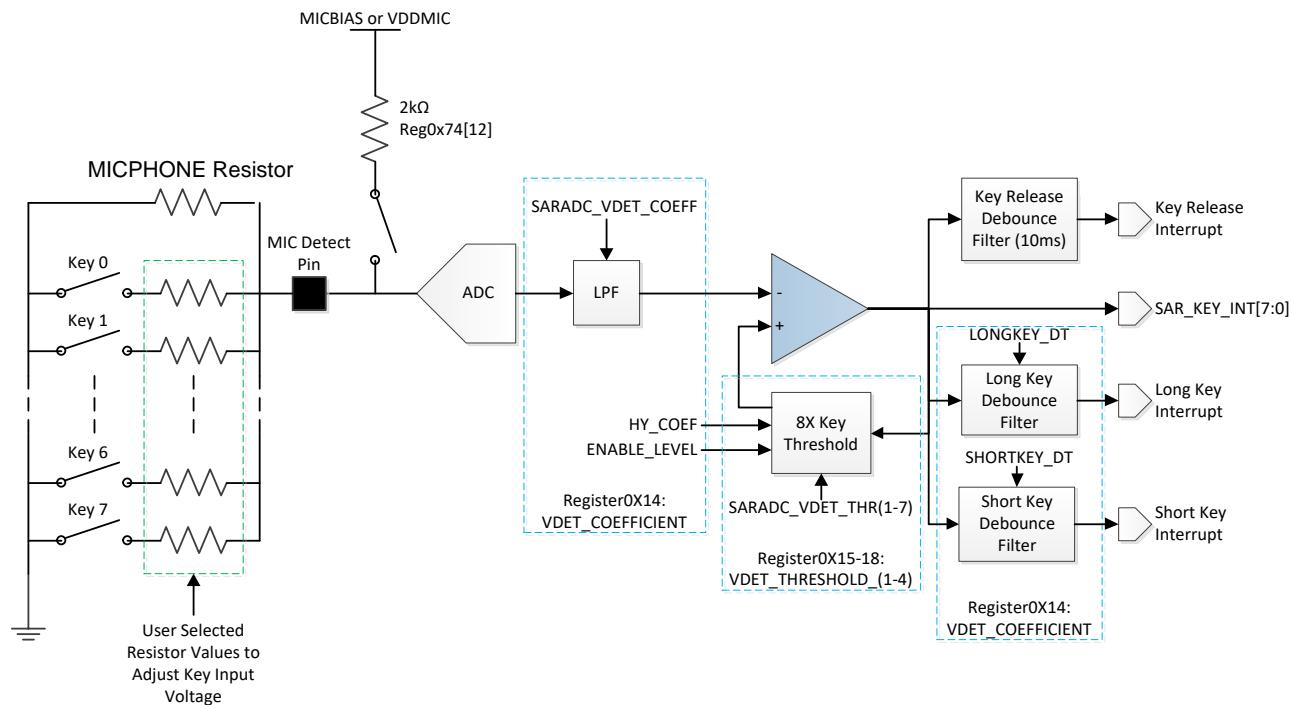

Figure 35: Key Detection
- 5) According to Figure 35, three threshold voltage levels for Key2 level could be set by **ENABLE_LEVEL=010**. First threshold voltage could be 98, the middle of 116 and 80 from 3) and 4). Hysteresis value can be set to 15, less than 50% of difference 116 and 80.
- **VDET COEFFICIENT.HY_COEFF REG0X14[3:0]** can be used to change the hysteresis range. The SARADC voltage needs to be lower than the hysteresis range to go into the lower level Key. On the other hand, voltage needs to be higher than the hysteresis range to go into a higher level key. This is shown by the dashed lines in Figure 35. If the voltage sampled is in the hysteresis range, the level needs to be compared to the previous state. For example, if the previous stat is Key 2 and the new sample is in the Key 1 hysteresis range, the logic will claim the status is still Key 2.